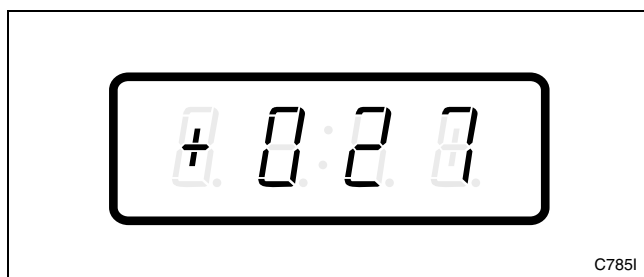

Figure 105
3. Press the LOW TEMP (+) or the NO HEAT (-) keypad to scroll through the programmable options until “+027” appears in the VFD. Refer to *Figure 105*.